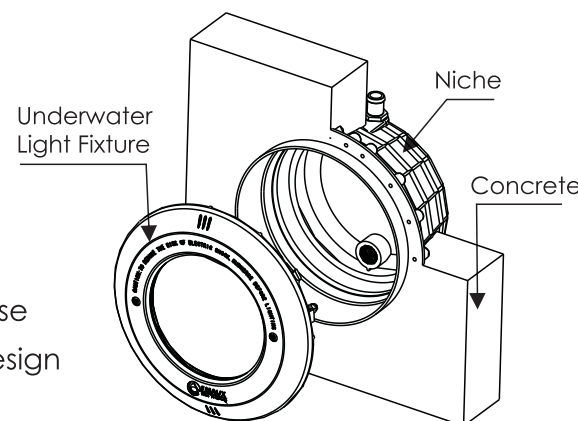

Figure 2
- 3) Concreting the pool as shown in figure 2.